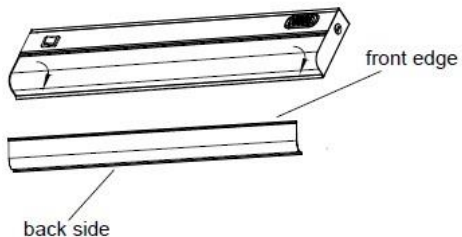

Fig.1
1. Carefully remove the diffuser by squeezing the front edge with forefingers while holding the back side with thumbs (Fig. 1).
1. Carefully remove the diffuser by squeezing the front edge with forefingers while holding the back side with thumbs (Fig. 1).	2. Open the wireway cover by gently pressing inwards to release the cover from the two tabs on the housing (Fig. 2).